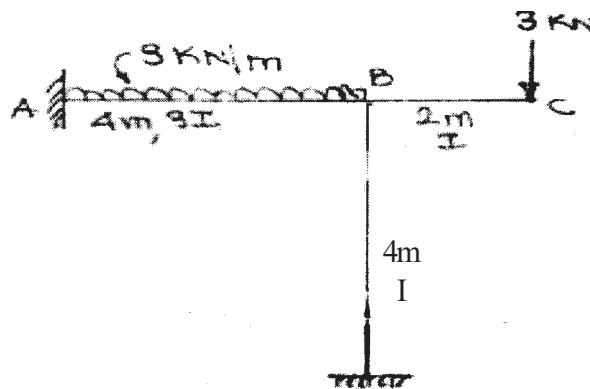

Fig. 3(b)
- b)** Analyse the frame shown in Fig. 3 (b) by MDM. Draw BMD. [8]